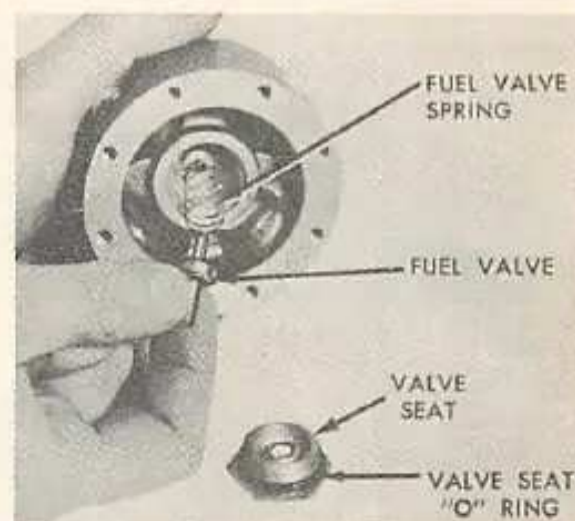
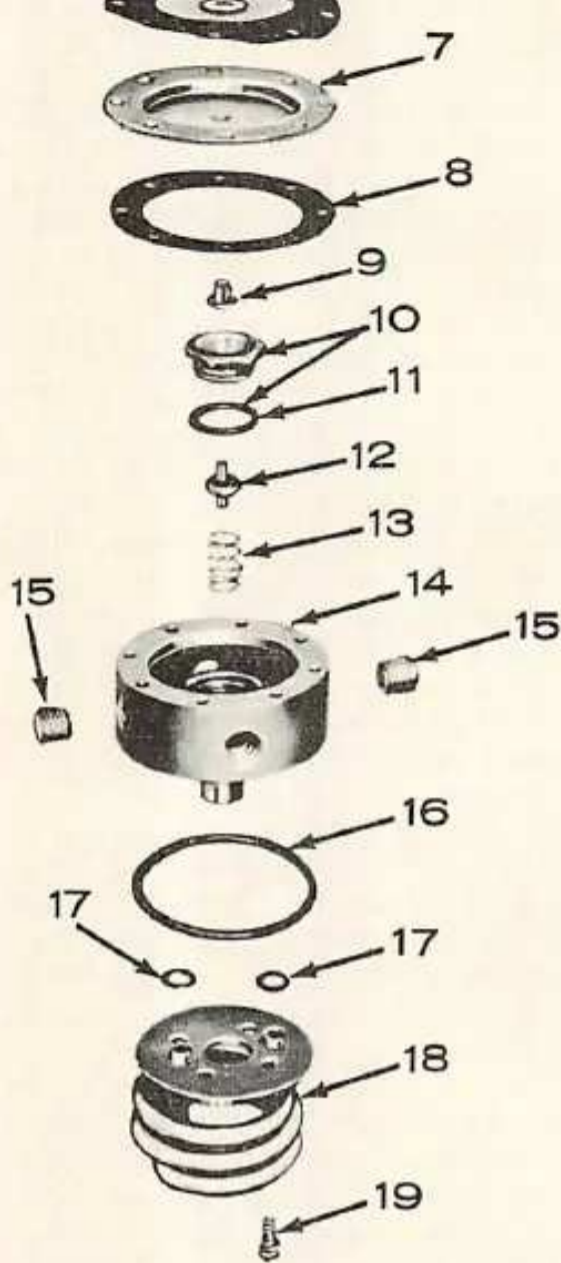

Fig. O70 — View showing fuel valve being removed from body.
Fig. O68 — Exploded view of Zenith LP Gas vaporizer assembly.
Refer to Fig. O68 and proceed as follows: Remove the four cap screws and separate vaporizer coil and mounting plate assembly (18) from vaporizer body (14). Discard all three "O" rings. Remove any alternate four of the diaphragm cover screws and install in their place four aligning studs (Zenith No. C161-195, or equivalent). Maintain pressure on the diaphragm, remove the remaining four cap screws, then carefully release the pressure on diaphragm cover and remove cover (2), diaphragm springs (4 and 5) and vibration dampener (3). Remove studs; then remove diaphragm (6), baffle plate (7), baffle plate gasket (8) and fuel valve cap (9) as shown in Fig. O69. Use a 1-inch socket wrench and remove valve seat (10—Fig. O68), fuel valve (12) and spring (13) as shown in Fig. O70.
low: Place fuel valve spring (13— Fig. O68) over boss in center of vaporizer housing (14), then place fuel valve (12) on spring with shortest stem toward housing. Be sure spring is resting on machined shoulder of fuel valve, then with new "O" ring on valve seat (10), install valve seat in vaporizer body and tighten. Place fuel valve cap (9) over the protruding fuel valve stem. Reinstall the aligning studs in four alternate holes in top of vaporizer body, then install new baffle plate gasket (8), baffle plate (7), with recessed side toward body, and diaphragm (6), with flanged disc away from body. Be sure fuel valve cap enters center hole of baffle plate. Place vibration dampener (3) inside the outer diaphragm spring (4). Place inner diaphragm spring (5) over center of diaphragm plate, then install outer spring over the inner spring. Place diaphragm cover (2) over aligning studs and depress cover until cap screws can be installed in the remaining four holes. Continue to depress the diaphragm cover and seat the cap screws lightly. Remove the aligning studs and install the remaining four cap screws. Tighten all the cap screws evenly and to a moderate tightness. Install a new "O" ring (16) on vaporizer body and two new "O" rings (17) on ends of vaporizer coil. Align mounting holes and install coil and mounting plate assembly (18) to vaporizer body.